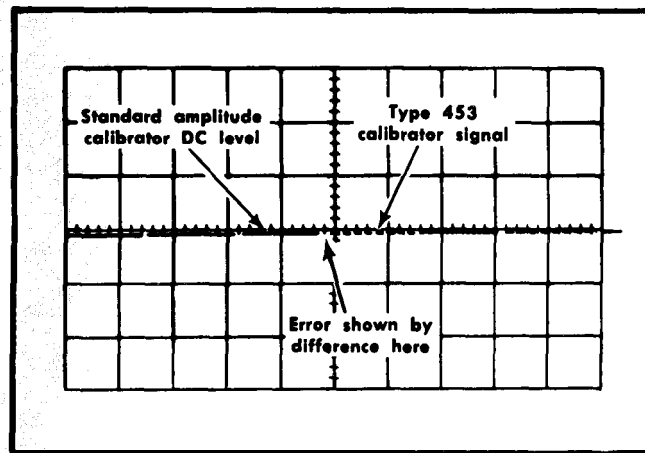

Fig. 5-31. Typical CRT display when checking voltage output of calibrator.
g. CHECK-Difference between the standard amplitude calibrator output level and the Type 453 Calibrator output is 0.1 division or less (one volt output, $\pm 1\%$; see Fig. 5-31).
k. CHECK-Difference between the standard amplitude calibrator output level and the Type 453 Calibrator output is 0.1 division or less (0.1 volt output, $\pm 1\%$; see Fig. 5-31).